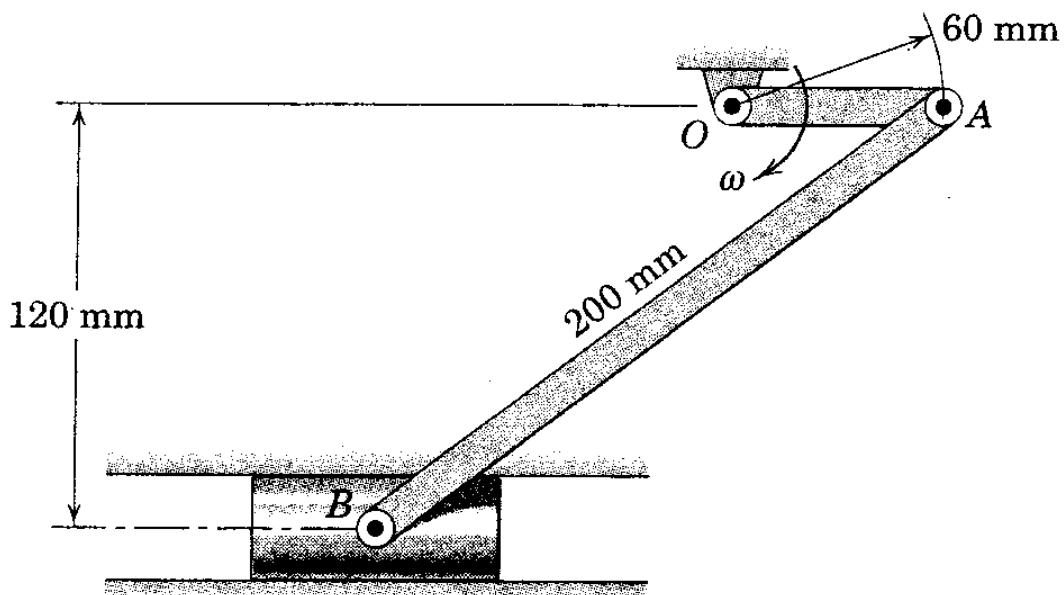

Figure 1 / Rajah 1
- (a) For a short interval of motion link as shown in figure 1, crank OA has a constant angular velocity $\omega = 4 \text{ rad/s}$. Construct the velocity diagram.